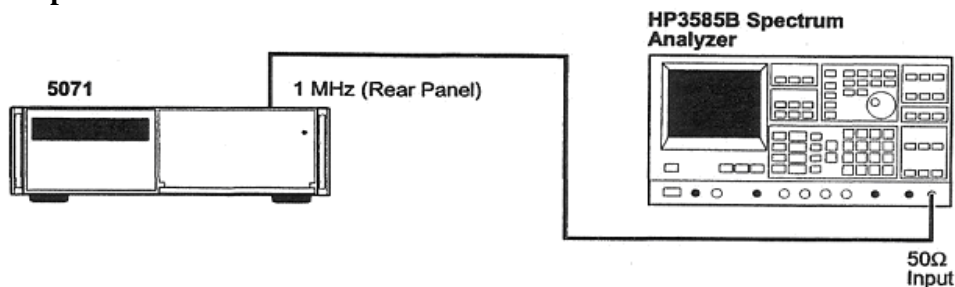

Figure A-5. 1MHz Output Harmonics Distortion Test Setup
- 1** Connect the 5071A 1 MHz output to the 3585B Spectrum Analyzer as shown in Figure A-5. Set the 3585B for 50 Ω input impedance.